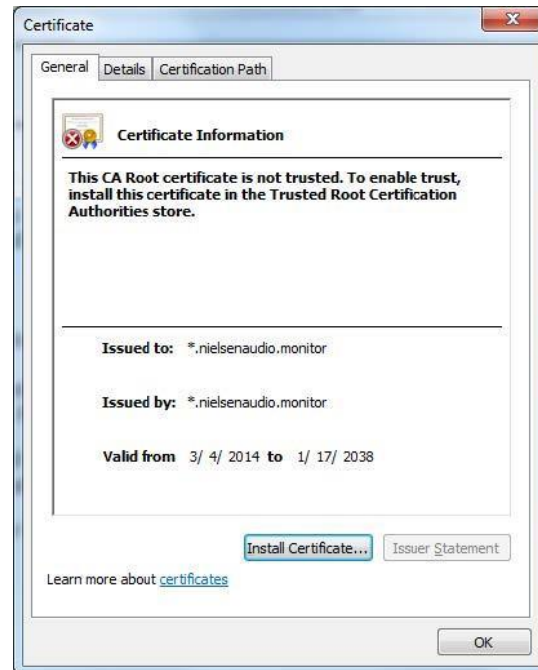

Figure 56: Install Certificate
5. Click the download notification in the lower left corner. A dialog box appears (Figure 56).